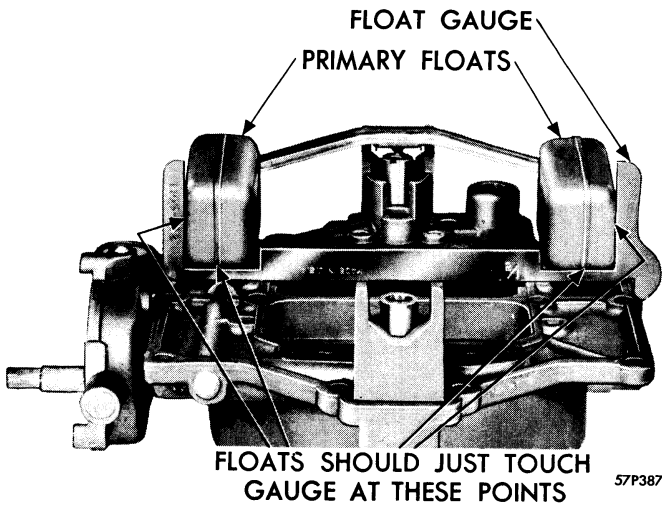

Figure 75—Checking Primary Float Level
**Float Level Adjustment**—Position gauge in position as shown in Figure 75. Refer to Data and Specifications for float setting. Both floats should just clear horizontal part of gauge. Bend float arm to obtain correct adjustment.